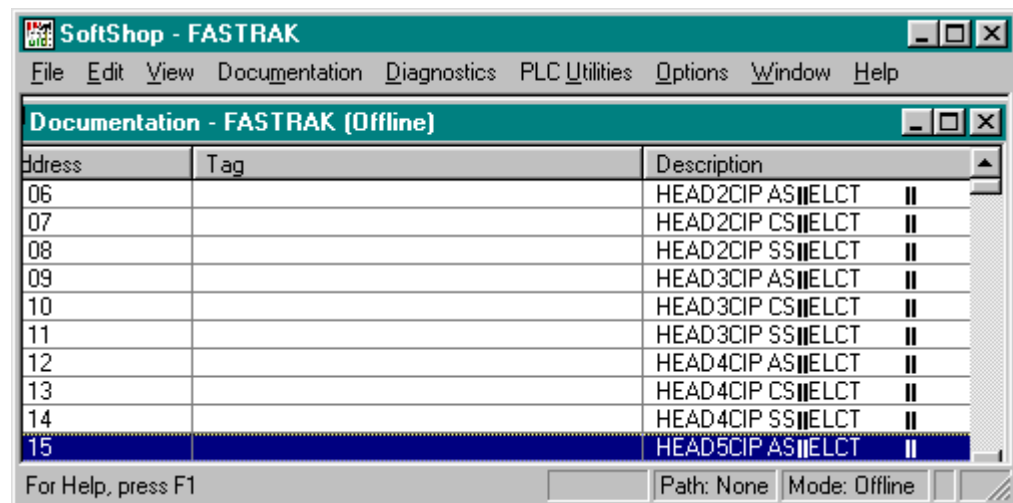

Figure 7.6
To open the Documentation Window, click  on the toolbar or select Documentation Window from the View menu (Figure 7.6).
3. Press the Enter key, Ctrl-L or double click on the actual address, tag, or description in the Documentation Window (Figure 7.6).